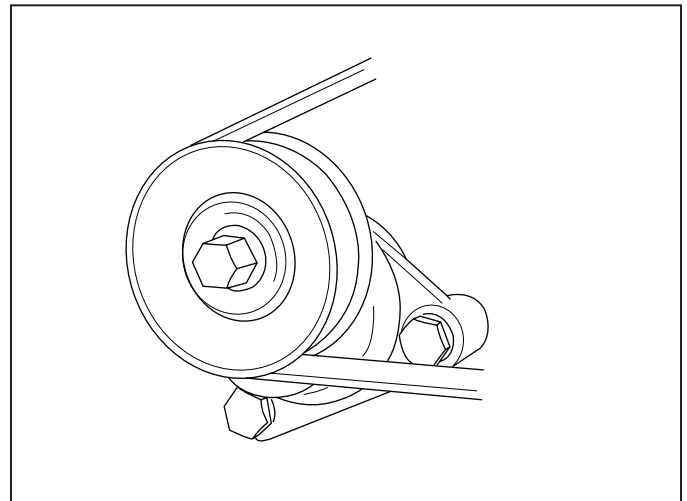

Figure 11-19 Belt Tensioner (8.1L)
1. With the engine at normal operating temperature, remove the dipstick and install a crankcase oil pump onto the dipstick tube (Figure 11-19). Insert the discharge hose into a suitable container. Pump the oil from the engine until the crankcase is empty. Remove the oil pump from the dipstick tube.